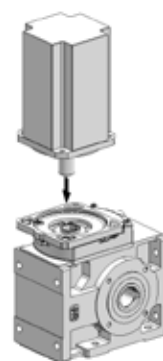

fig. 3
- introduce the motor from the top down to shoulder (see fig. 3);